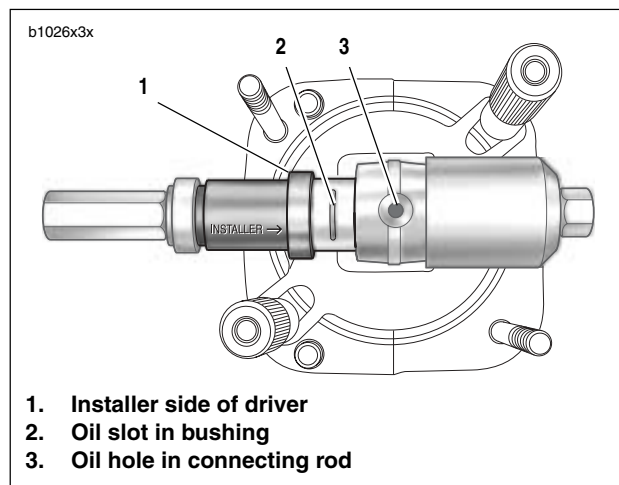

Figure 3-83. Installing New Wrist Pin Bushing
6. See Figure 3-83. Place **new** bushing between connecting rod and driver.